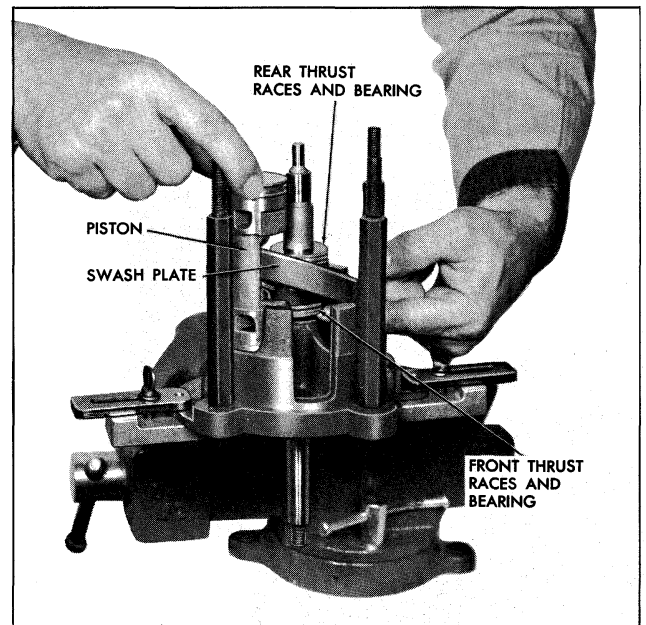

Fig. 5-21 Installing Piston with Balls and Front Shoe Only
10. Rotate shaft and swash plate until high point of swash plate is over piston cylinder bore, which had been identified as No. 1. Insert front end of No. 1 piston (notched end) in cylinder bore (toward the front of compressor) and at same time, place front ball and shoe and rear ball only over swash plate (Fig. 5-21).
NOTE: It may be necessary to lift shaft assembly to aid in installing pistons. Hold front thrust bearing pack tightly against swash plate hub while lifting shaft (Fig. 5-21).